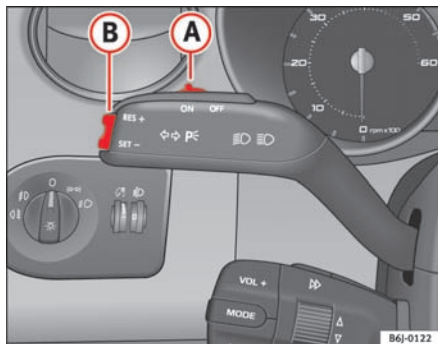

Fig. 101 Turn signal and main beam headlight lever switch and rocker switch for the cruise control
- Move the control ⇒ fig. 101 (A) to the left to **ON**.